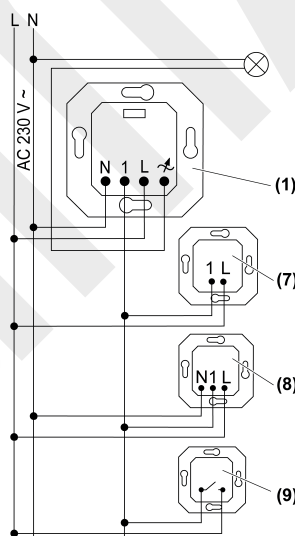

Figure 2: Connection diagram with optional extensions
- (7) Extension insert, 2-wire
- (8) Extension insert, 3-wire
- (9) Push-button, NO contact
- Connect the load according to connection diagram (figure 2).
- i** The light can be switched by briefly pressing the **Dimm-Mode** button (4).
- Attach the frame (2) and the top (3).